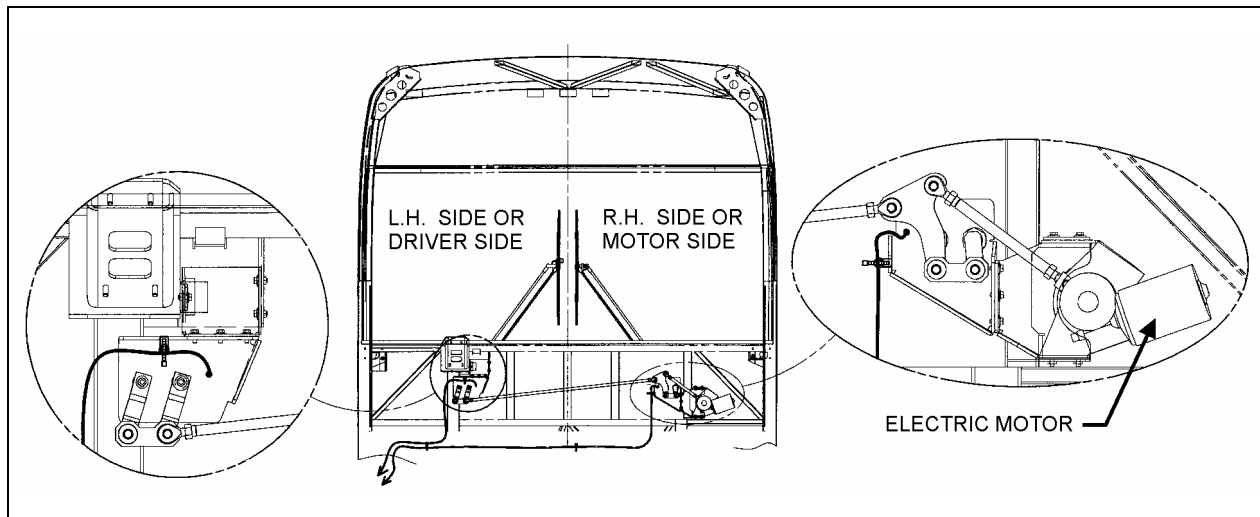

FIGURE 1: WINDSHIELD WIPER INSTALLATION
3. Remove the Phillips head screws retaining the defroster panels, and remove panels. Remove access panel beside the footwell. The driving mechanisms are now accessible for replacement (refer to figure 1).